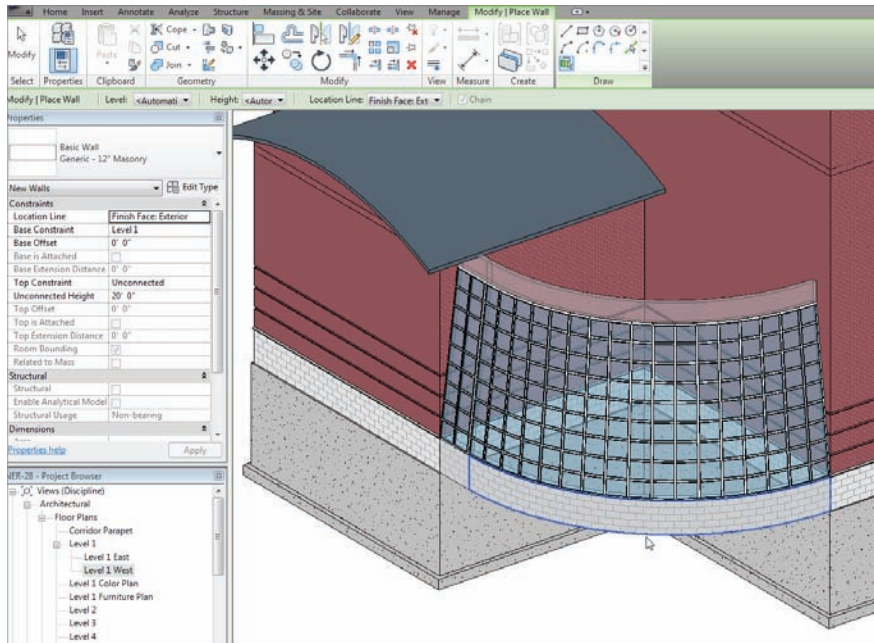

FIGURE 16.52 Adding something to bear on
3. On the Draw panel, select the Pick Faces button, as shown in Figure 16.52.
5. Pick the bottom faces of the mass (see Figure 16.52).